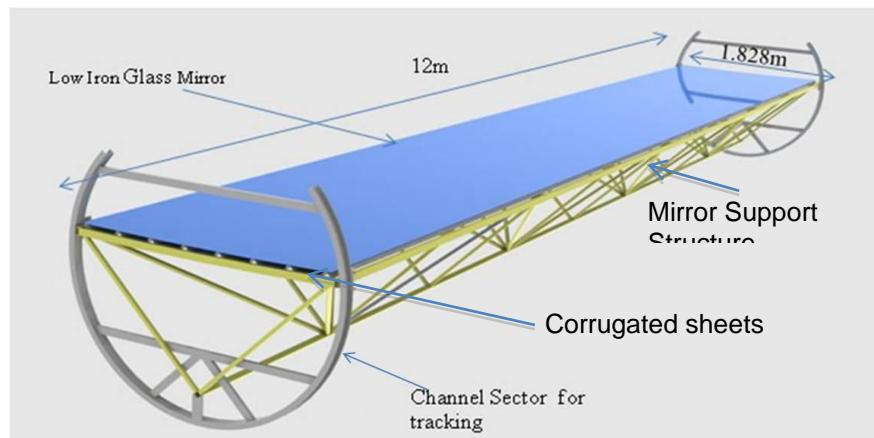

Figure 3: Components of a Reflector
4. **Elastically Curved Low Iron Glass Mirrors:** They are adhered to the corrugated sheets. The mirrors along with the corrugated sheet are supported by the **Mirror Support Structure (MSS)**, fabricated with GI hollow sections (See figure 3).